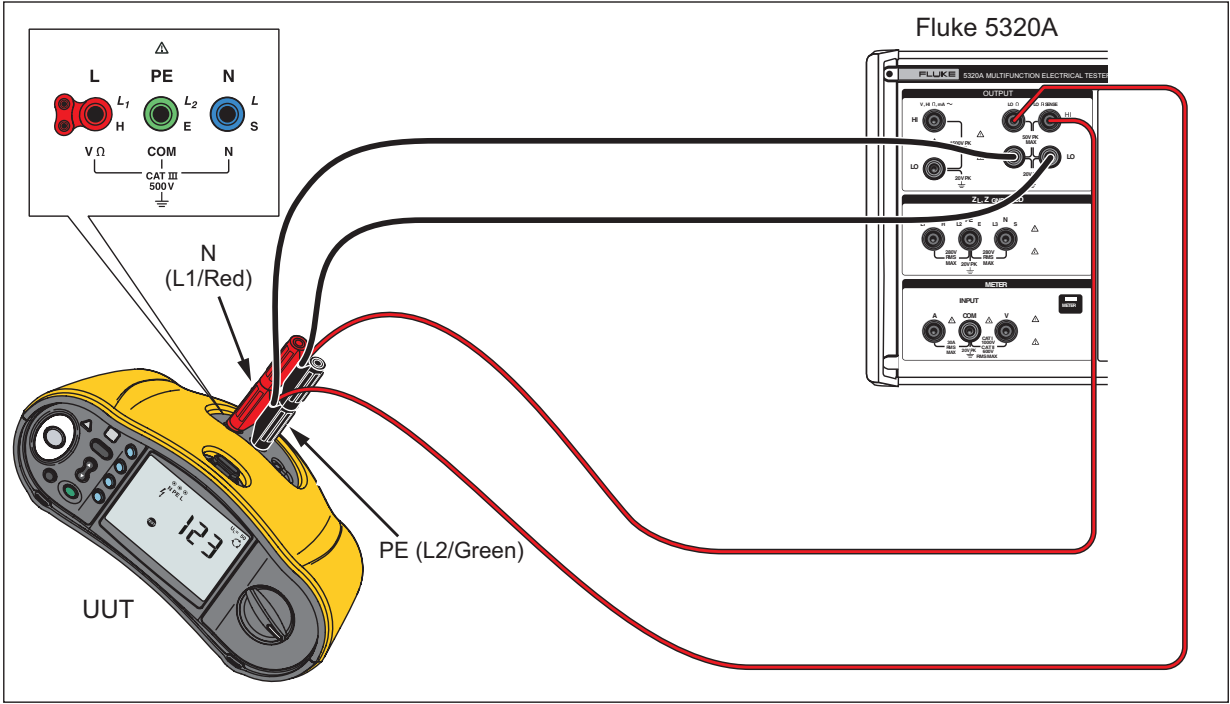

Figure 5. Continuity Tests (4-Wire Connection)
12. On the Calibrator, connect the measurement test leads to the Tester N and PE (L and PE for 1662) input jacks in a 4-wire configuration as shown in Figure 5.